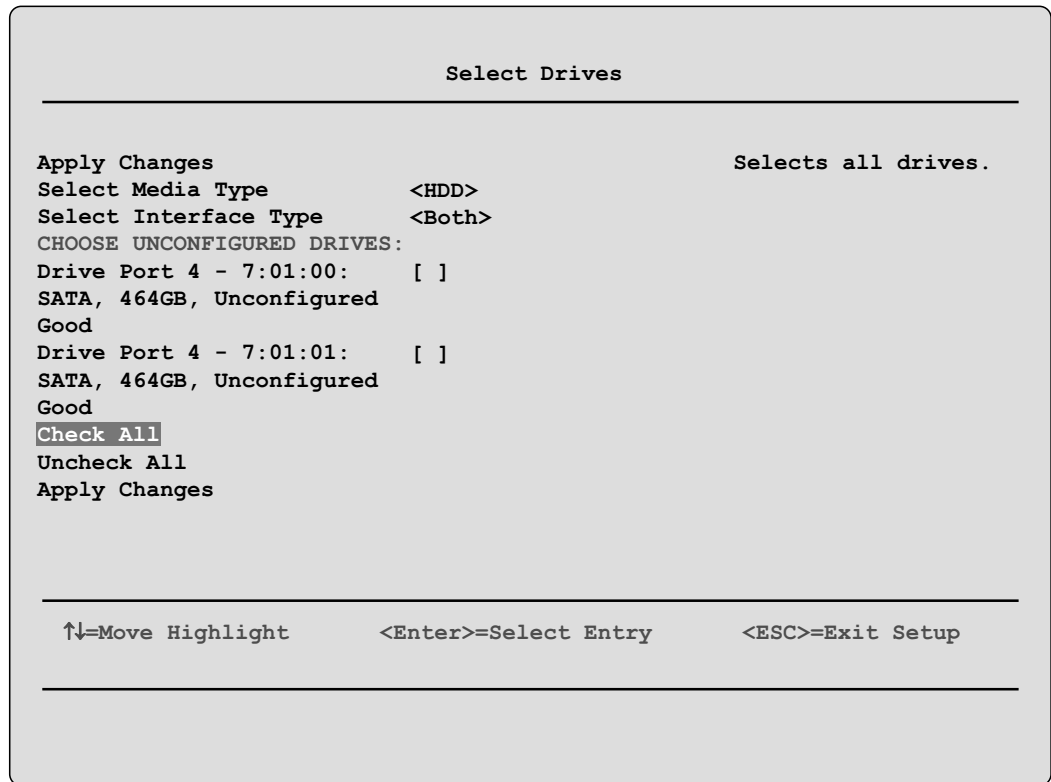

Figure 3 Select Drives pane: Selecting the drives
10. Verify that both drives are listed and select **Check All** as shown in Figure 3.